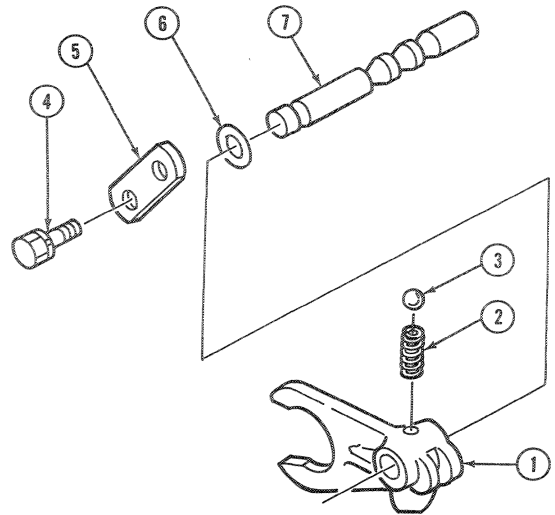

FIGURE 5-22
12. Slide the shifter rod forward while being careful not to lose the fork detent ball and spring, Figure 5-22.
13. Remove the shift fork, 1, Figure 5-22.